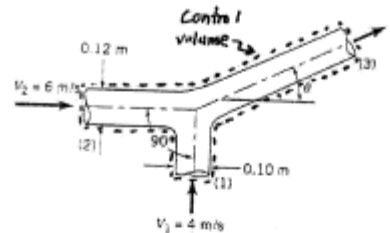

FIGURE P5.134
5.134 Two water jets collide and form one homogeneous jet as shown in Fig. P5.134: (a) Determine the speed, V , and direction, θ , of the combined jet. (b) Determine the loss for a fluid particle flowing from (1) to (3), from (2) to (3). Gravity is negligible.